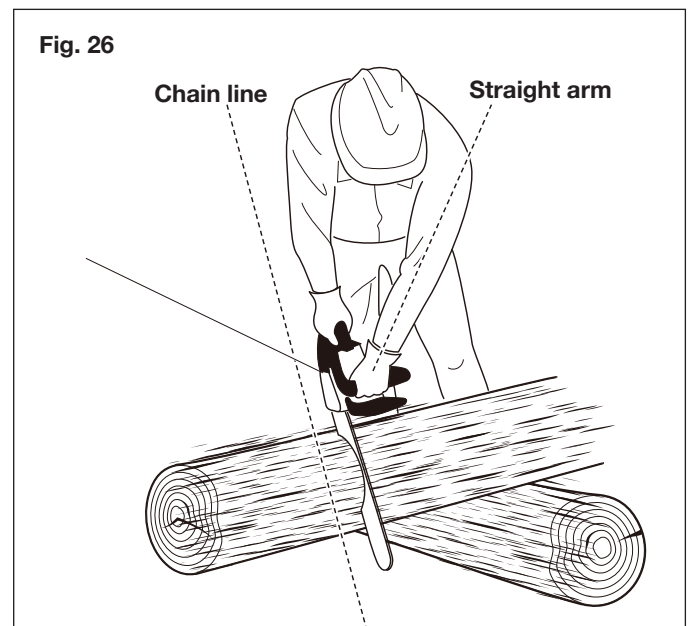

Fig. 26
- Keep your left arm and elbow locked in a "straight arm" position to withstand any kickback force (Fig. 26).
- Take the proper stance in front of the wood with the saw turned off (Fig. 26).